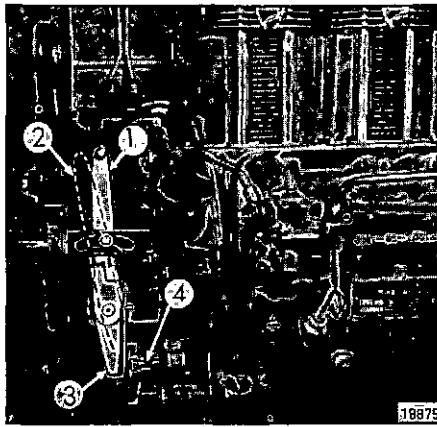

Fig. 15
1. Set speed control lever 1 (Fig. 15) to idling position 2.